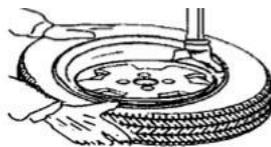

Fig 10
Pay special attention to the inside of the bead. Place the tire over the rim and see if you can push the lower bead over the rim. If not, swing the Swing Arm (M) into place and move the tire so the lower bead passes over the rear of the Mounting Tool (I) and under the front of the Mounting Tool (I) Refer to Fig 10. Press down rotational pedal (Z) to turn the turntable clockwise. Guide the tire onto the rim. Repeat this procedure for the top bead. On low profile and run flat tires, use the Pneumatic Bead Assist Tools. Place the Bead Roller right behind the Mounting Tool (I) and the Bead Assist Tool (P) next to it pressing down the tire into the drop-center. Press the rotational pedal (Z) down, the turntable will rotate clockwise. Let the Bead Assist Tool (P) move with the tire keeping it in the drop-center. On some low-profile tires, using drop-center clamps greatly assist in mounting the top bead.